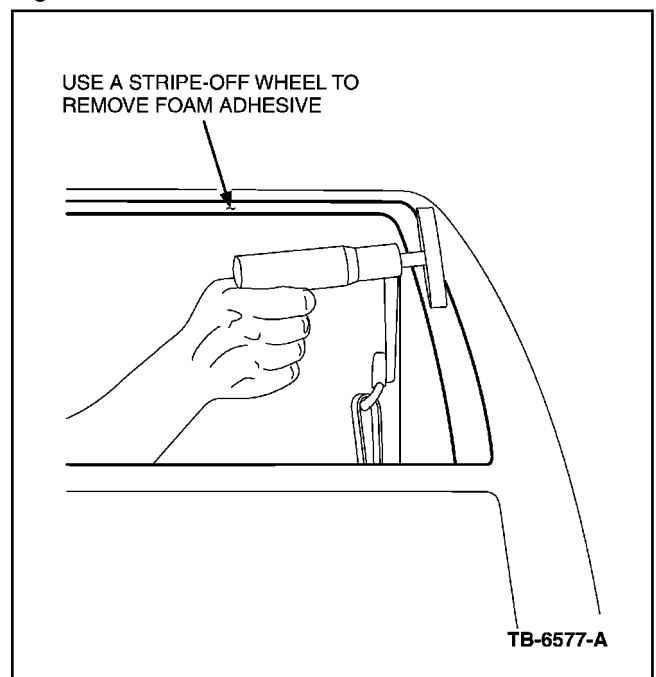

Figure 2 - Article 02-6-4
5. Use a rubber stripe removal wheel such as 3M p/n 07498 on a air drill (tool optimal speed is 1500-2000 rpm) to remove remaining foam adhesive, as shown in Figure 2. The surface should be relatively clean, recognizing that it may not be possible to remove all traces of the silicone adhesive.